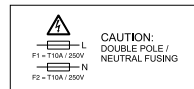

Figure 4. Fusing caution label
4. Verify that the fusing caution label is installed on the 2104 Model DS4 power supply. See Figure 4.